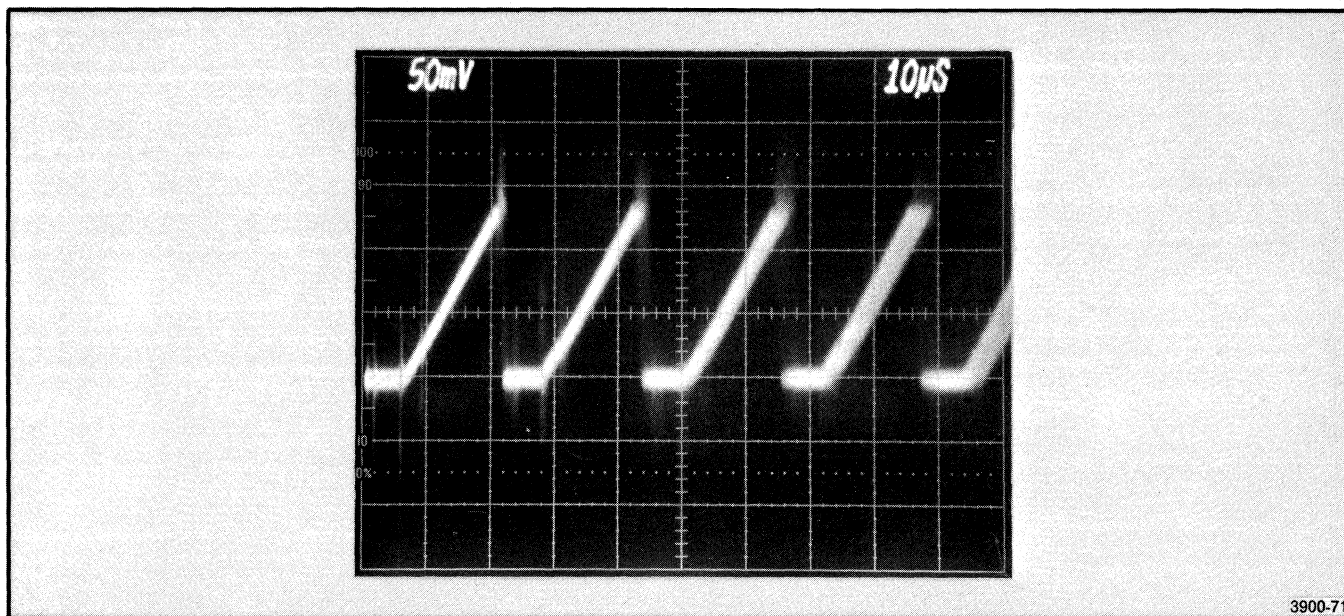

Fig. 12-11. +12 V regulator reference waveform.
20. If the supply is being brought up after a catastrophic failure in the main inverter, and the supply fails to stay on over an input voltage range of 90 to 132 Vrms, the +12 V secondary regulator may be regulating improperly. To check the +12 V secondary regulator, set the scope's vertical sensitivity to 50 mV/cm and change the coupling to ac. With the supply running, observe the waveform at pin 3 of U2010 on the Regulator Board. If this waveform does not match the waveform in Fig. 12-11 (especially if the sawtooth is smaller or nonexistent), U5030 on the Regulator Board is probably faulty and should be replaced.